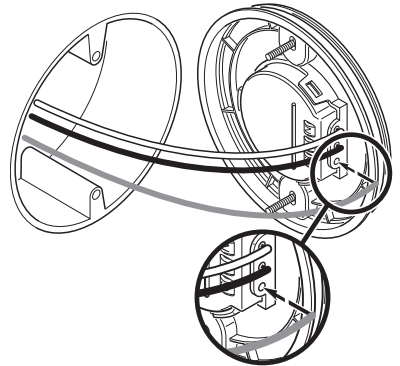

Figure 2
2. Insert the junction box wires into the side of the terminal block on the back of the mounting plate (see Figure 2).